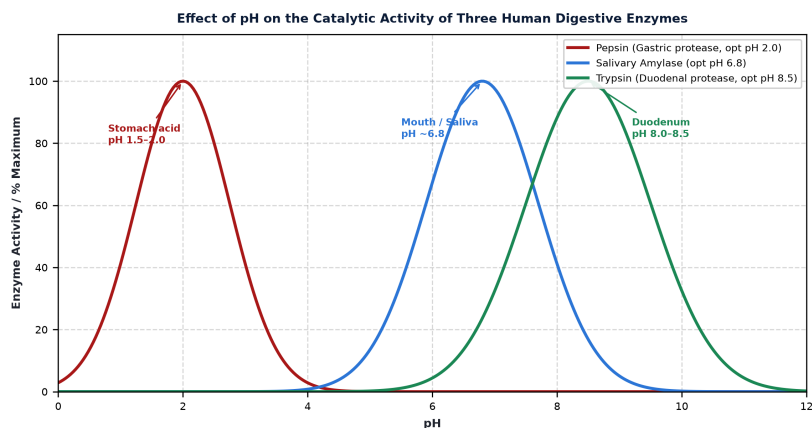

Fig. 3.6: Effect of pH on catalytic activity of pepsin, salivary amylase, and trypsin.
Human digestive enzymes function in specialized anatomical compartments with distinct physiological pH levels. Fig. 3.6 compares the activity curves of pepsin, salivary amylase, and trypsin.
- (a) State the optimum pH for pepsin and trypsin from Fig. 3.6 and name the anatomical organ where each functions in vivo. [2]